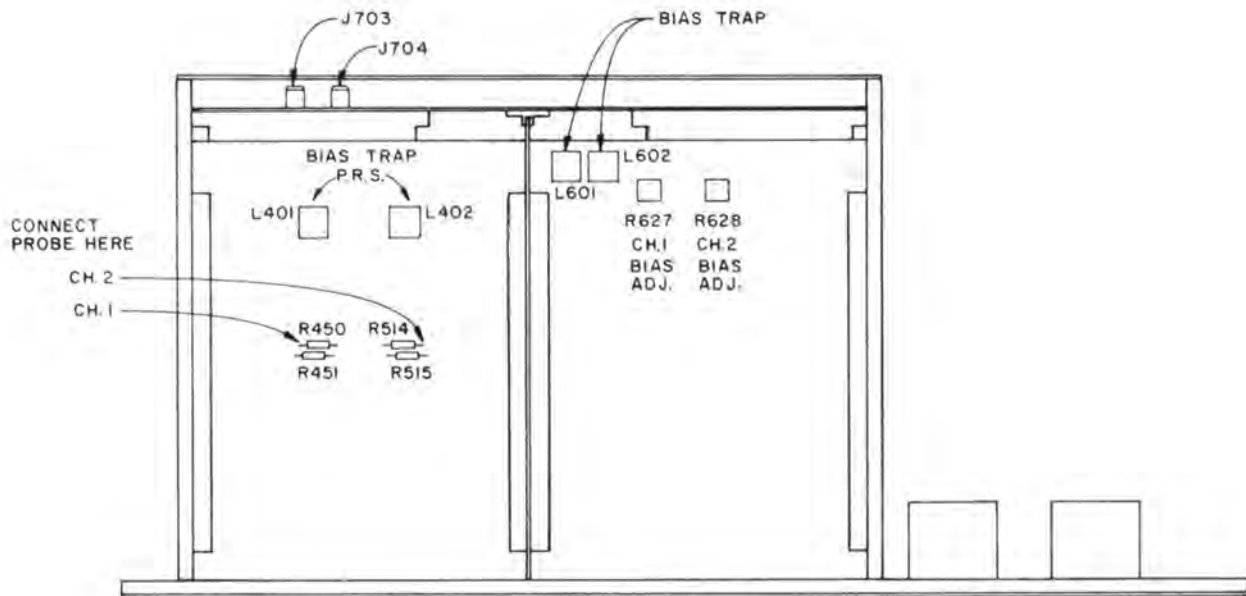

FIGURE 4-7
1. Refer to Figure 4-7 for the location of the components used in the following adjustments.